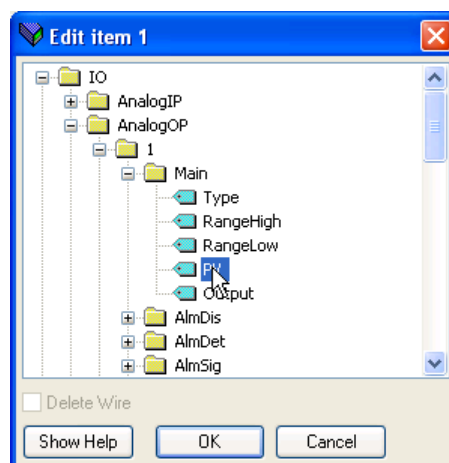

Figure 7.8.1b Parameter browse window
4. A parameter Browse window appears (figure 7.8.1b) for the selected row (1 in the figure), allowing the user to select a parameter.